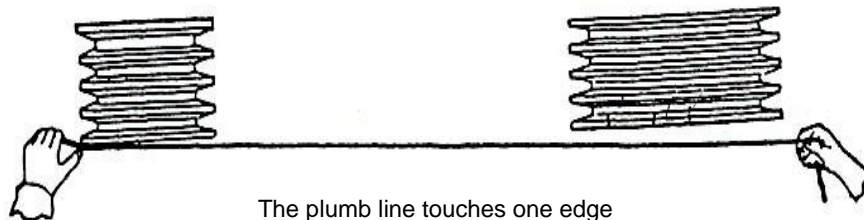

FIG 19.
A. Hold one end of the string or line against the edge of one of the pulleys. (Fig 19)